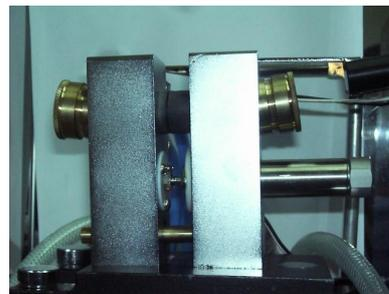

Figure 2-21
4. Close the left furnace body (Figure 2-21)